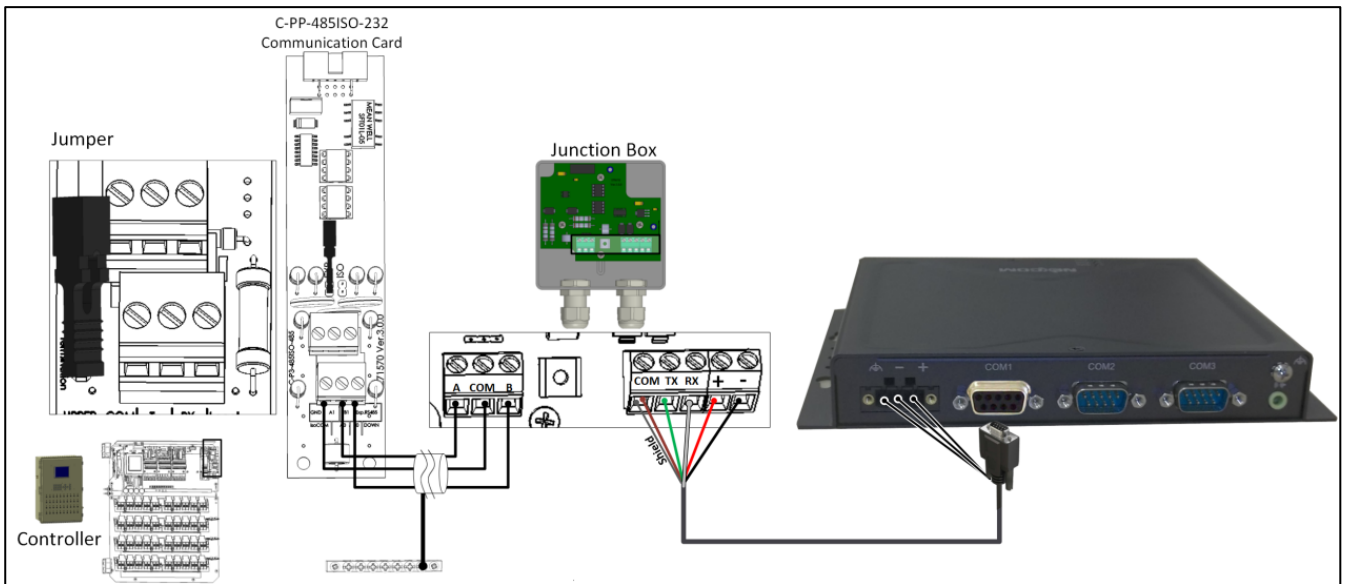

Figure 49: Comm-Box – Controller Termination
- There is no need to install an external 120 Ohm termination resistor in the controller; place a jumper on the communication card at the unit located at the end of chain (Figure 49).